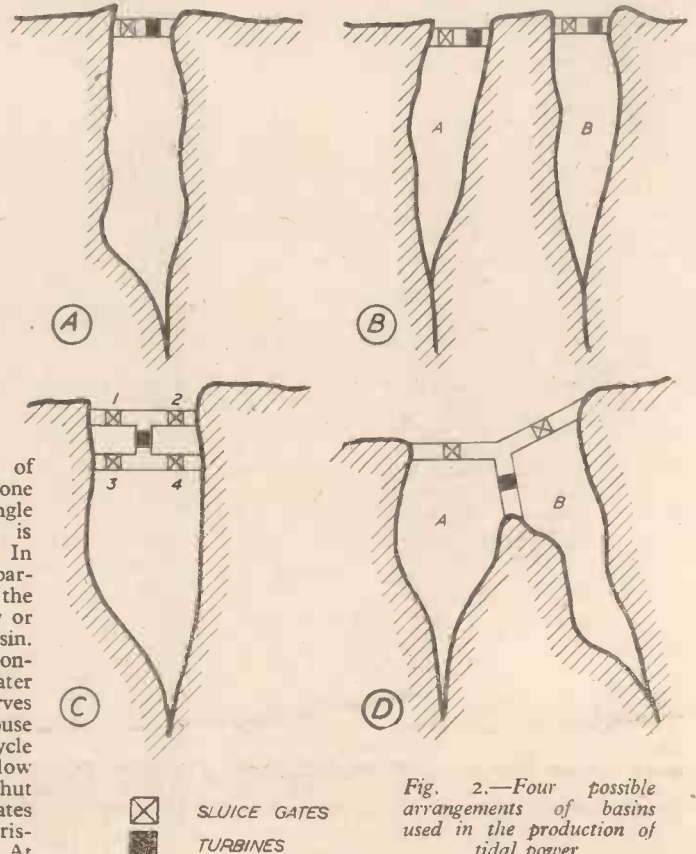

Fig. 2.—Four possible arrangements of basins used in the production of tidal power.
The simplest type of tidal power station is one which works on the single cycle system, which is shown at A in Fig. 2. In this system a dam or barrage is built across the mouth of a narrow bay or estuary to form a basin. The barrage not only controls the level of the water in the basin, but also serves to contain the power house and sluice gates. The cycle works as follows. At low tide the turbines are shut down and the sluice gates are opened, letting the rising tide fill the basin. At
Another way of working tidal power stations is to combine two single cycle systems, as shown at B in Fig. 2. In this system basin (A) produces power on the falling tide, while basin (B) produces power on the rising tide, so that nearly continuous operation is possible. This is a satisfactory arrangement, and it has the added advantage that the two stations can share some of the electrical equipment such as transformers, switch gear, transmission lines, etc. There is, however, the difficulty of finding sites close enough together to be able to operate the system in a satisfactory manner.
A cycle which gives nearly the same effect as the one just described is shown at C in Fig. 2. In this system only one basin is required, but it is necessary to have two barrages. The two barrages contain two sluice gates each, while the power house is contained in the short connecting barrage. When the tide is rising sluices 1 and 4 are opened, allowing water from the sea to flow into the basin via the turbines and so produce power. At high tide, when the water level in the sea and basin are equal, sluices 1 and 4 are shut and 2 and 3 are opened. As the tide falls water flows out from the basin, through the turbines and into the sea, again producing power. It will be seen that by this method water always flows in the same direction through the turbines. With this system of operation it is possible to produce power for 18 to 20 hours each day, though the maximum power produced is rather less